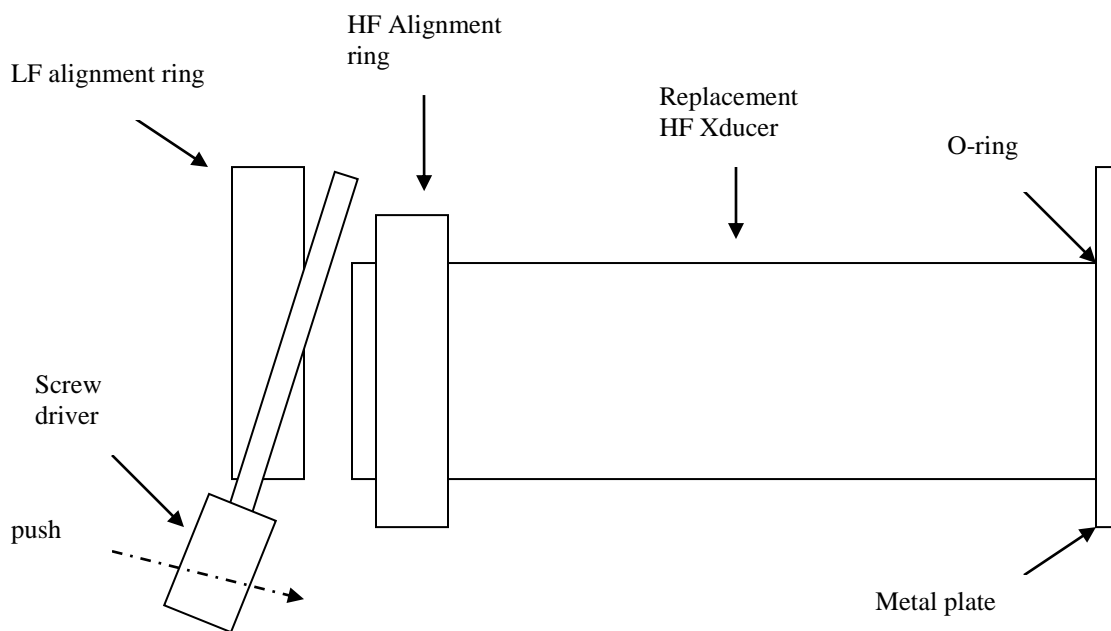

Fig.1. HF transducer installation.
8. HF transducer installation: Use a screw driver or similar device to help push the new HF transducer into place. The screwdriver can be leveraged against the neighboring LF alignment ring for easier installation. See figure 1.